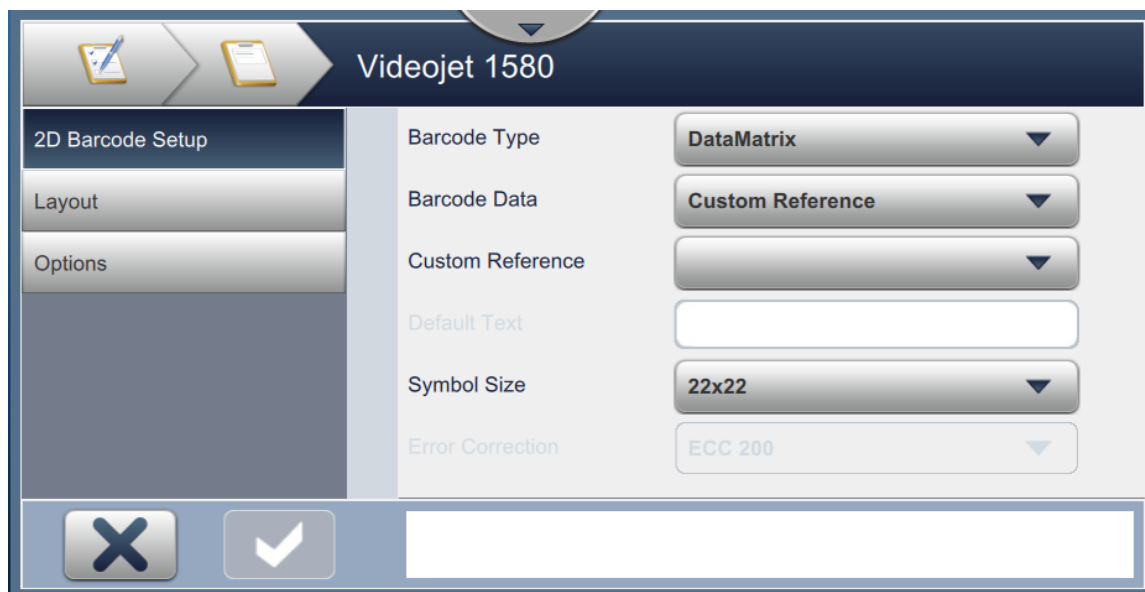

Figure 6-11: 2D Barcode Setup Screen
7. The 2D Barcode Setup screen enables the user to select the custom reference as shown in Figure 6-11.